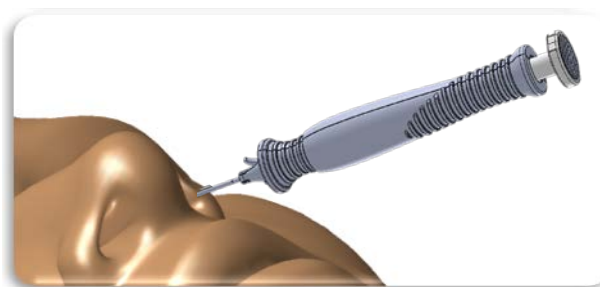

Figure 7: Approximate Delivery Device orientation relative to nasal anatomy
- Under direct visualization, the Delivery Device cannula is inserted through the nasal mucosa of the lateral wall within the nasal cavity near the margin of the nostril. Approximate Delivery Device orientation and cannula trajectory is shown in **Figure 7** below.